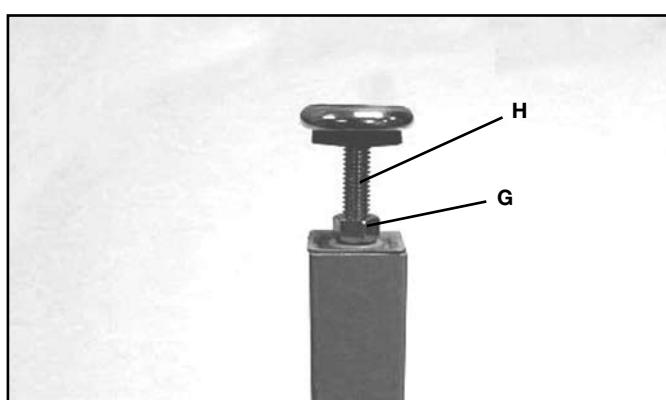

FIG. 10
5. Assemble the 3/8" jam nut (G) onto leveling screw (H). Thread leveling screw into bottom of support leg. Fig. 10 illustrates the foot leveling assembly on the table leg. Assemble the remaining foot assembly to the other leg in the same manner. NOTE: Height adjustment will be made later.